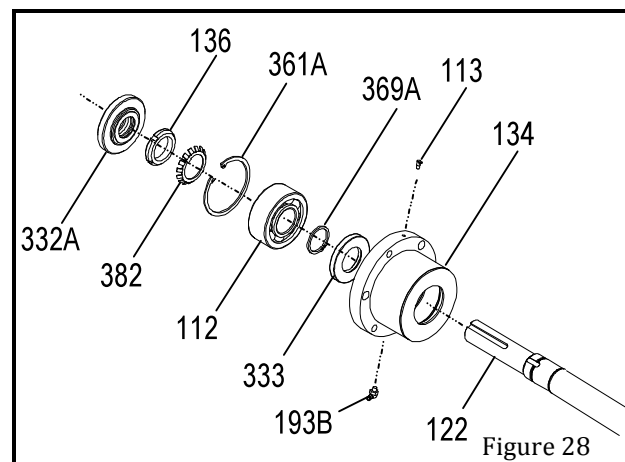

Figure 28
25. Remove labyrinth seal (332A). A screwdriver is required to pry the seal from the bearing shell (134) (Figure 28).